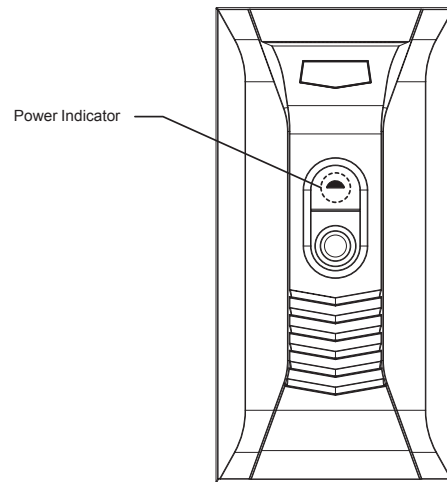

Fig. 10 - Power Indicator
- d. The power indicator light above the air purifier power switch should illuminate (see Fig. 10).
The air purifier is equipped with a power indicator light located on the door (see Fig. 10). This power indicator light will illuminate when the air purifier door is installed, the power switch is in the on position, AND the furnace blower is running. If the power indicator light is not illuminated, follow the troubleshooting steps below.